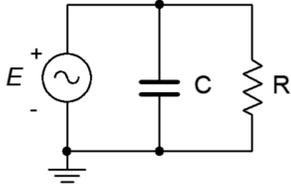

**Figure 3.17**
27. Determine the resistor and capacitor currents in the circuit of Figure 3.17. Assume  $I_1$  is 2 A at 0 degrees and  $I_2$  is 500 mA at +45 degrees.
28. Determine the source voltage for the circuit shown in Figure 3.17. Assume  $I_1$  is 2 A at 0 degrees and  $I_2$  is 500 mA at +45 degrees.